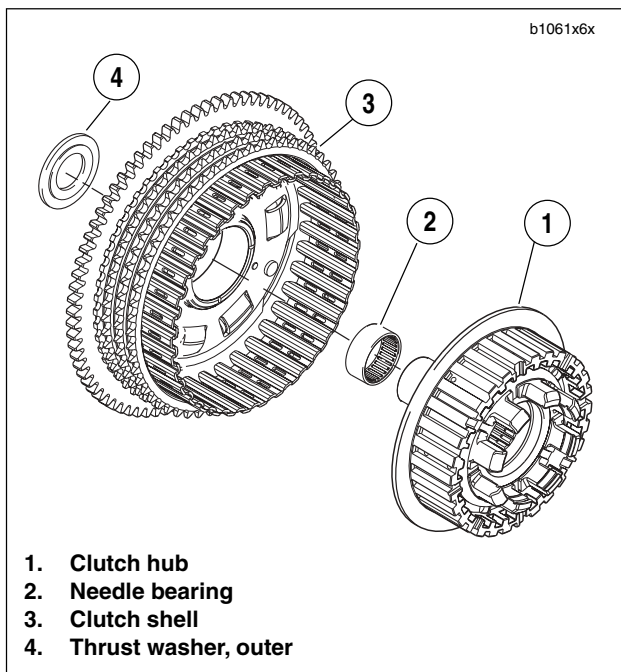

Figure 6-30. Clutch Hub and Shell Assembly
1. See Figure 6-30. Assemble clutch hub and shell by sliding inboard end of clutch hub into shell bearing by hand. No tools are required for this operation.